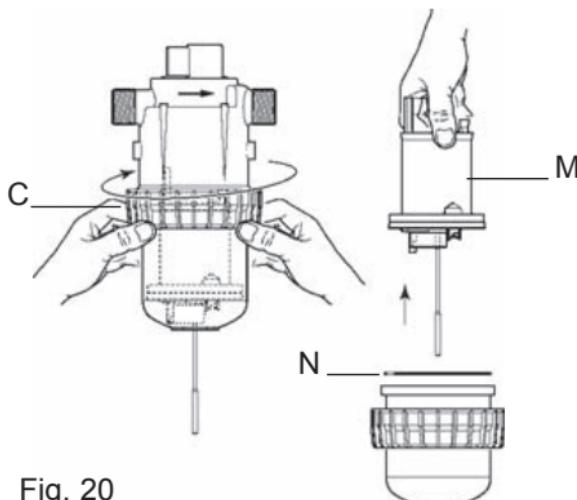

Fig. 20
- Unscrew the pump body nut by hand (Fig. 20-C) and disassemble pump body.
- Remove the motor piston (Fig. 20-M) by pulling it up.
- Change and reassemble in the reverse order to the above. To do this, insert the motor piston partially into the lower pump body (step ①) (carefully insert the lips of the motor piston) and partially into the upper pump body (step ②), taking care not to damage the pump body seal (Fig. 20-N), then assemble.
- Step ③: Tighten the pump body nut **by hand**.
- Refit the injection part assembly, but not without having cleaned or replaced its sealing (Fig. 20-N).